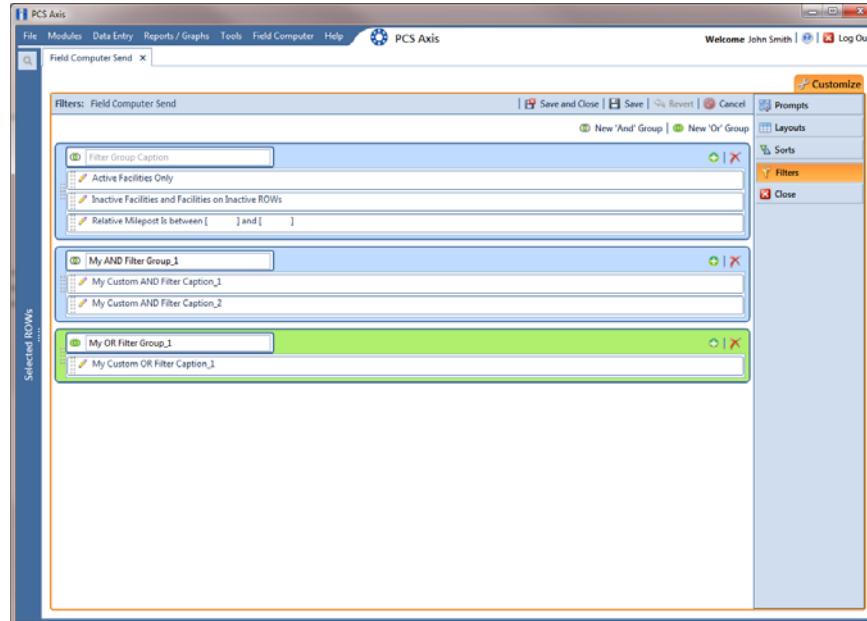

Figure 13-40. Filters
- 4 Click the **Customize** tab , then the **Filters** button  to open the *Filters* page (Figure 13-40, page 606).